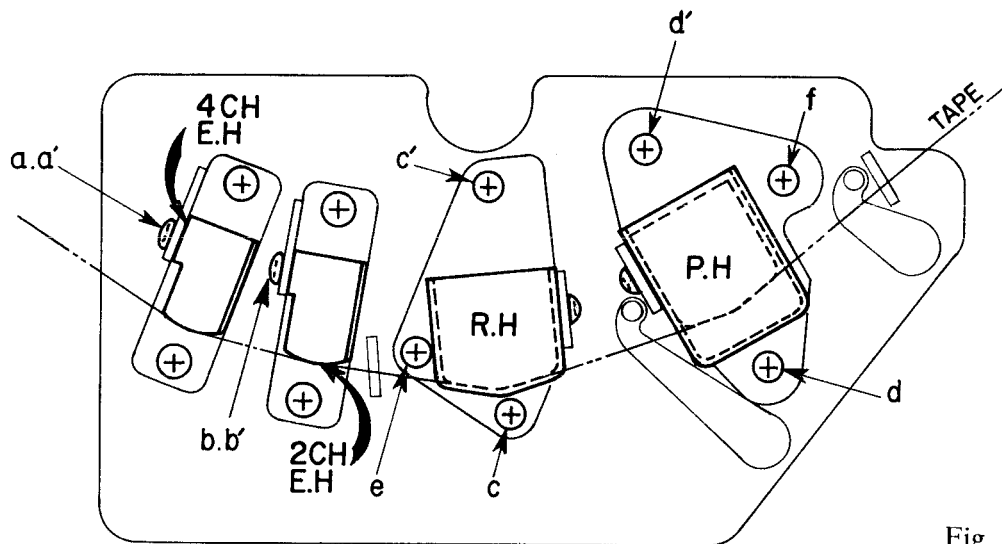

Fig. 2
### (A) Adjustment of Head Height (See Fig. 2 and 3)